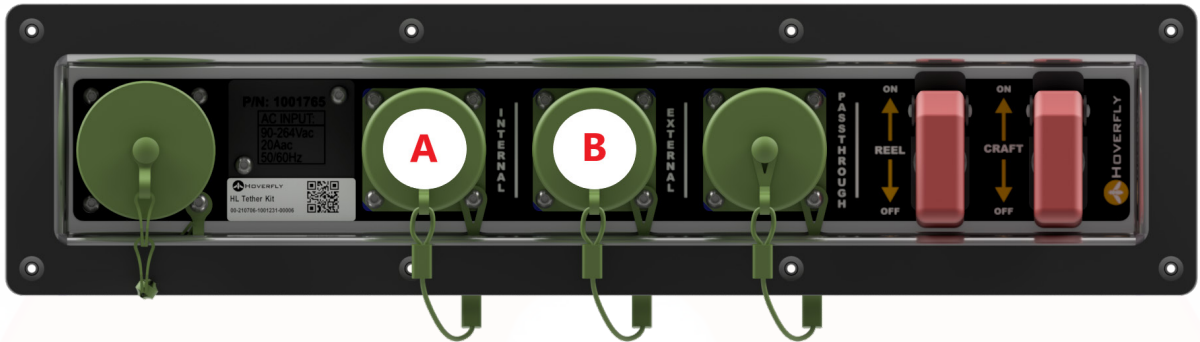

Figure 8: Tether Kit Internal and External Ports
1. Connect one end of an Ethernet cable to the Tether Kit **Internal** port (Figure 8, A).
7. Disconnect the Ethernet cable from the Internal Tether Kit port (**Figure 8, A**) and plug it back in to the External port (**Figure 8, B**).